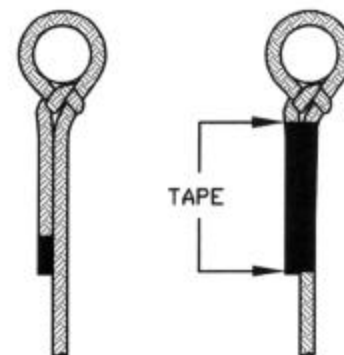

FIG. 5 - TIGHTLY BIND LOOSE END
5. Tightly bind the short end alongside the rope with tape. (See Figure 5) [Tip: to keep the tape from unraveling, release the tension in the tape just at the end of binding.]